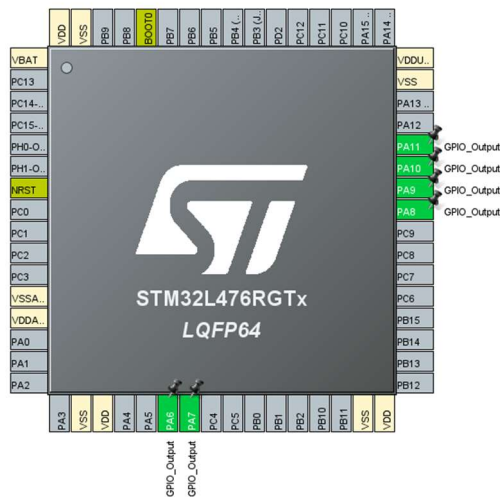

Figure 45: Chip configuration
- Configure GPIO pins PA6 to PA11 as digital output (Figure 45).